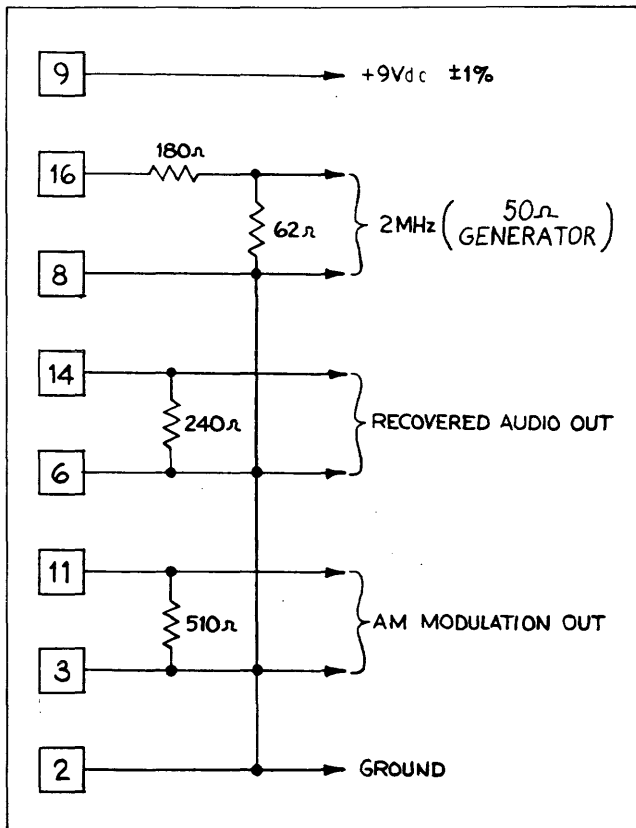
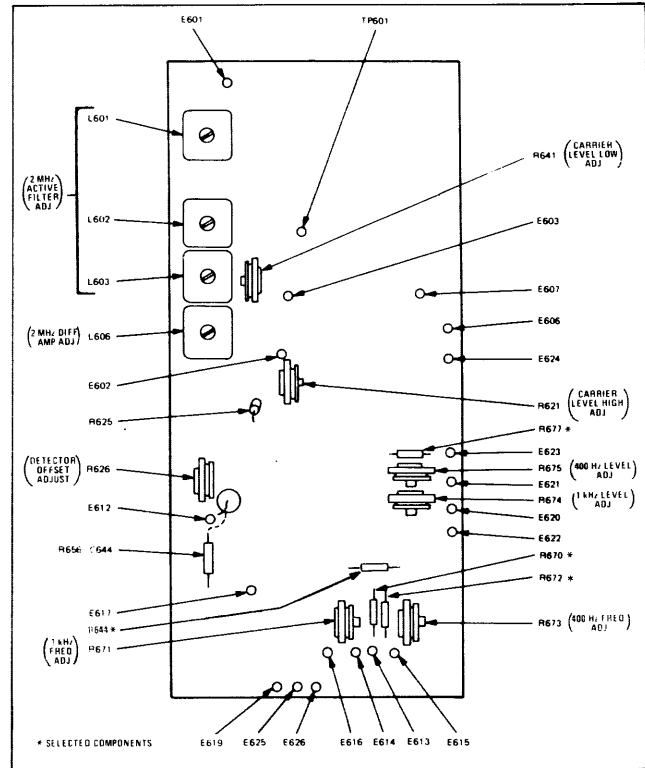

Figure 2-1. Test Connector Schematic Diagram
Figure 2-4. Trimmer Locations, AM Detector Assembly, A1
- a. See Figure 2-1 for schematic diagram of test connector wiring.
- Connect the 2 MHz signal generator to the test connector (See Figure 2-1). Connect the ac voltmeter between A1E601 and ground (See Figure 2-4). Vary the 2 MHz signal generator output level for 2.5 mV rms on the ac voltmeter.